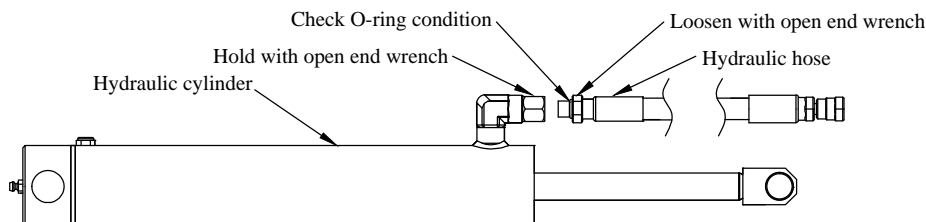

Figure 5: Hydraulic hose and cylinder.
- 7. REMOVE** the hose from the cylinder (only if replacing the complete cylinder) (Figure 5).
- 8. VERIFY** that the hose and O-ring are in good condition and free of cuts or wear marks (Figure 5).
1. **LUBRICATE** the hose O-ring, if previously disconnected (Figure 5).
2. **ATTACH** the hose to the cylinder, if previously disconnected (Figure 5).